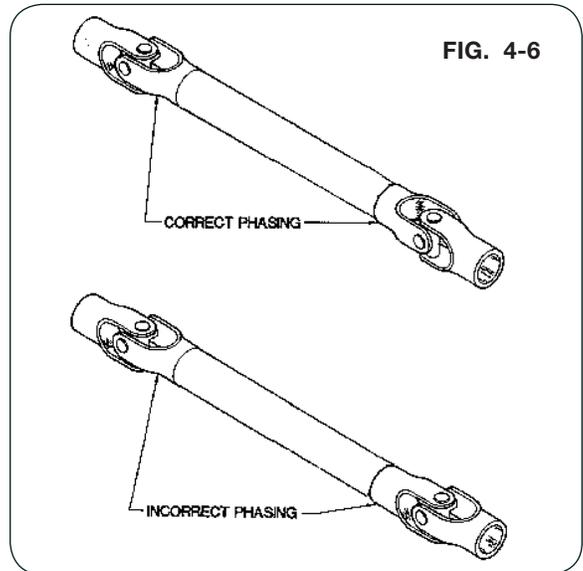

FIG. 4-6
6. Lower the upper auger assembly, turn off tractor and remove key. Slowly turn lower auger by hand while applying grease to the hanger bearing. Grease until the grease purges out and around the drive dog housing. Apply a light coat of surface grease to drive dog conical shaft. Wipe off excess purged grease from hanger bearing top seal area. Check and remove any loose parts in the auger tube interior prior to start-up. (FIG. 4-6)